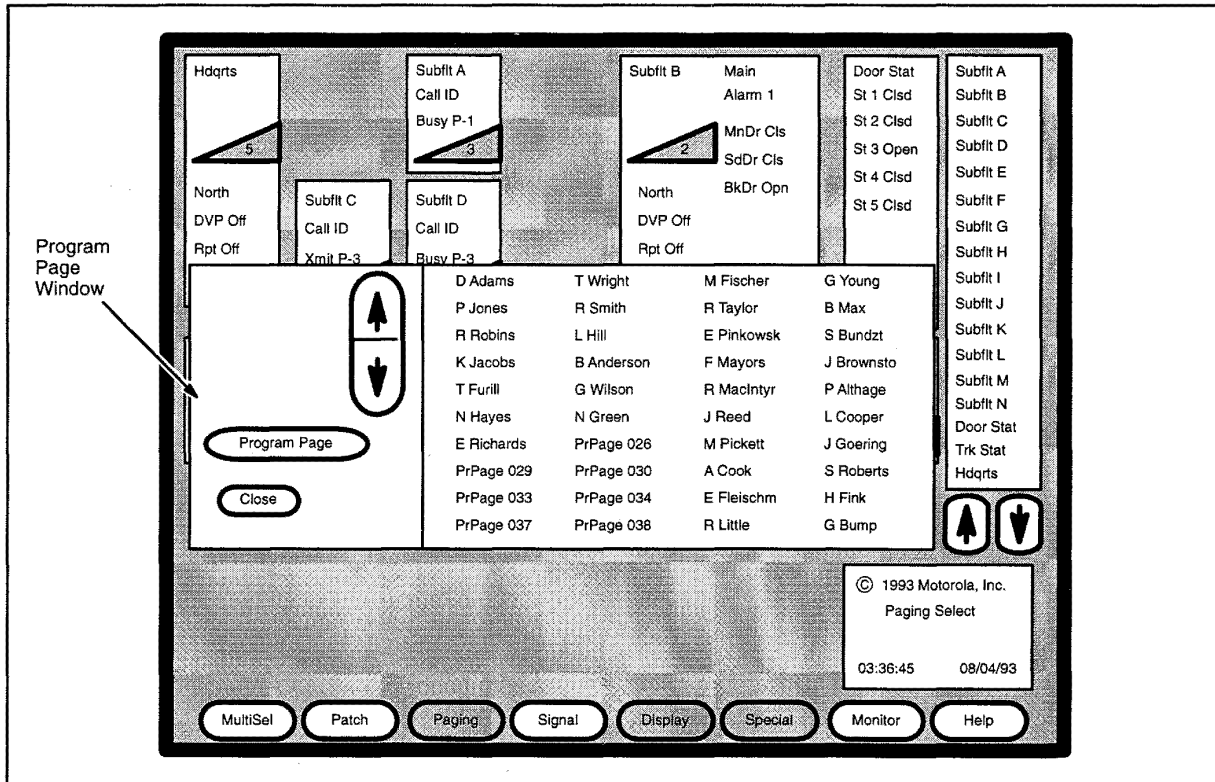

Figure 9. Program Page Window
Step 1. Choose the **Program** menu key from the Page menu. The Program Page Window is displayed containing a list of pre-programmed page ID's, scroll keys, a **Program Page** command key, and a **Close** command key (see Figure 9).